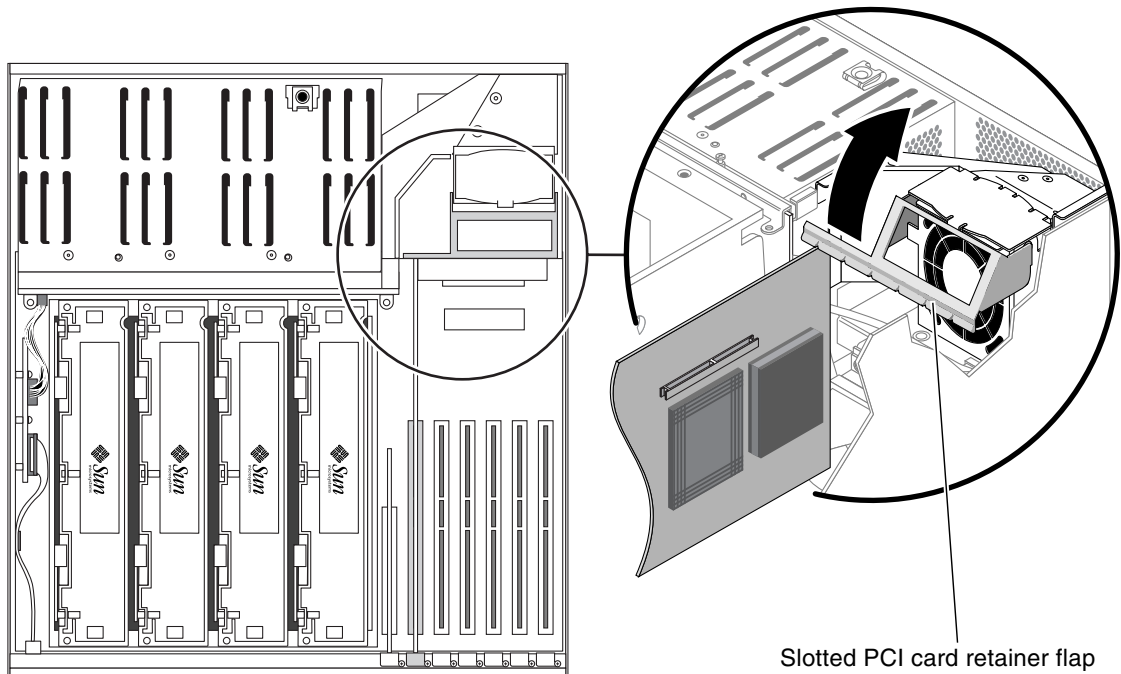

FIGURE 4-25 Lifting the Slotted PCI Card Retainer Flap
7. If you are removing a *long* PCI card, raise the slotted PCI card retainer flap on the fan tray 3 assembly (FIGURE 4-25).
- c. If you removed a *long* PCI card, lower the slotted PCI card retainer flap on the fan tray 3 assembly (FIGURE 4-25).
c. **If you are installing a *long* PCI card, raise the slotted PCI card retainer flap on the fan tray 3 assembly (FIGURE 4-25).**